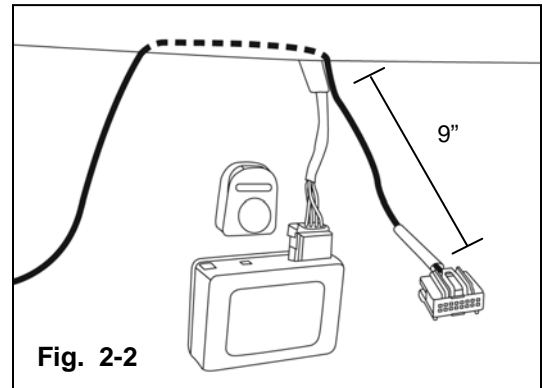

Fig. 2-2
- c) Pull approximately 9 inches of EC mirror harness down from headliner (measuring from headliner to end of connector). **(Fig. 2-2)**